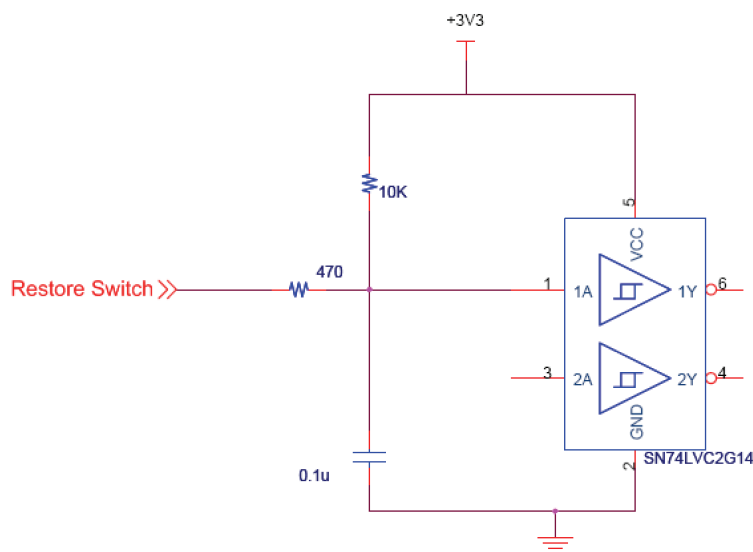

Figure 1 Restore Switch Debounce Input Stage
The Restore Switch signal input to the LTP5903-WHR includes a debounce circuit to support direct connection to a mechanical push button, as illustrated in Figure 1.
* Input includes a debounce input stage as illustrated in Figure 1.